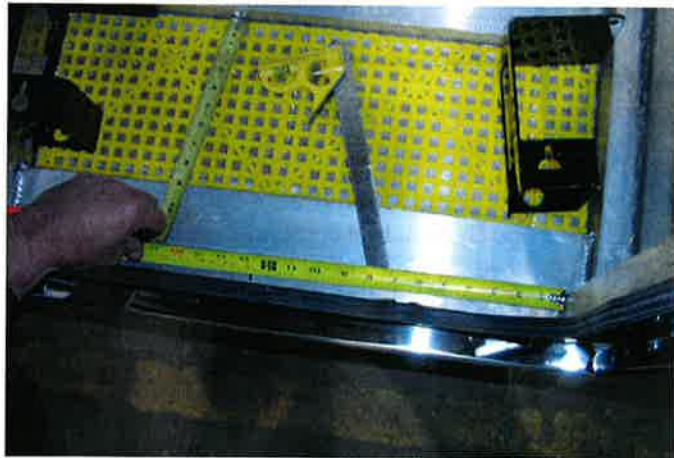

FIGURE 2
- (b) Locate center of door opening, measuring from the front bulkhead to the aft inside jamb. Mark center on bottom sill. See Figure 2.